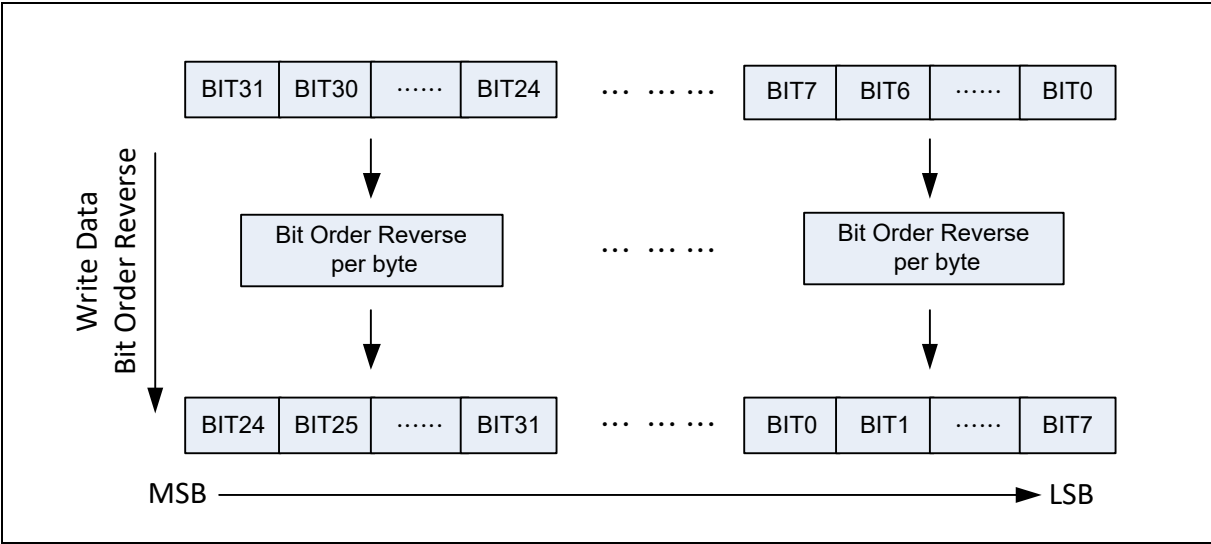

Figure 6.23-3 Write Data Bit Order Reverse Functional Block
- Configure bit order reverse for CRC write data per byte by setting DATREV (CRC_CTL[24] Write Data Bit Order Reverse). The functional block is also shown in Figure 6.23-3.